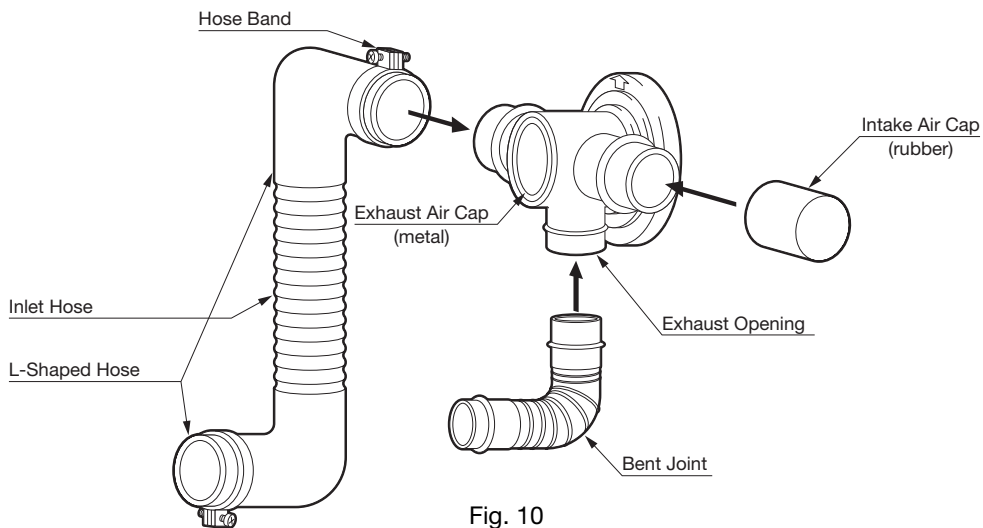

Fig. 10
- Insert the bent joint to the exhaust opening of the flue pipe. Cut the inlet hose for desired length if necessary. Attach the L-shaped hose to each end of the inlet hose and attach the L-shaped hose to the intake opening of the flue pipe. Secure the L-shaped hose to the intake opening with the hose band. Plug the unused exhaust (metal cap) and intake (rubber cap) opening with the caps provided with the heater. Make sure the caps fit tightly onto the opening (See Fig. 10).